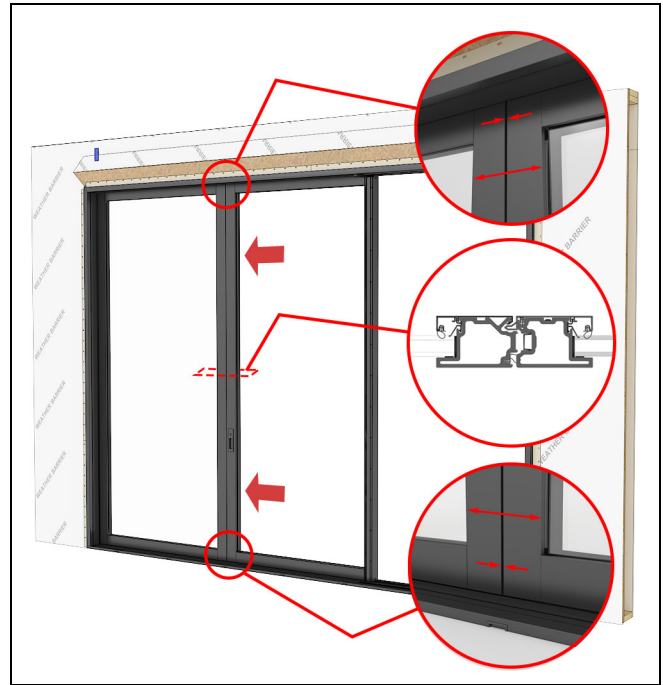

Figure 99 Adjust operator panel to obtain an even reveal.
7. Close operator panel and lock. Adjust rollers as needed to achieve proper reveal and lockset engagement. See Figure 99. For more information on adjusting rollers, refer to the section, Adjusting Panels on page 59.